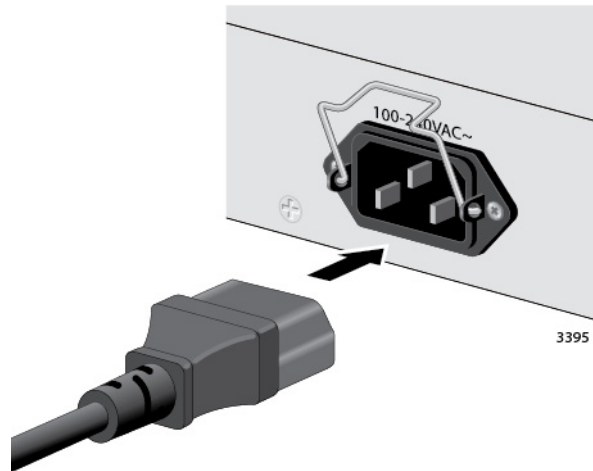

Figure 39. Plugging in the AC Power Cord
1. Power on the switch you want to be assigned ID number 1 by connecting its power cord to the AC connector on the back panel and to an appropriate power source. See Figure 39 on page 70. Refer to “Power Specifications” on page 92 for the power specifications of the switches.
Connect the power cords to the connectors on the back panels and to the appropriate power sources, as shown in Figure 39 on page 70. Refer to “Power Specifications” on page 92 for the power specifications of the switches.